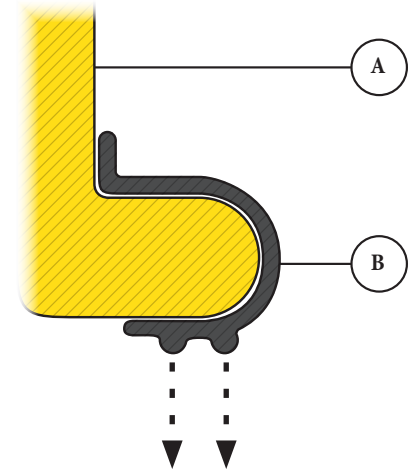

FIG. 6
- 6 Install the Barrel Gasket (B) onto the rounded, bottom edge of the Motor Assembly (A). The Barrel Gasket (B) should be oriented so that the "ribbed" side is facing downwards [FIG. 6].